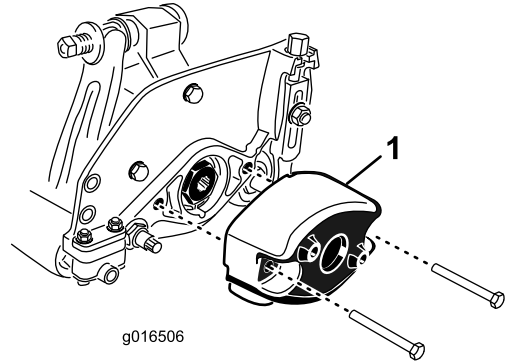

Figure 8
1. Remove the 2 bolts securing the counter weight to the left end of the cutting unit. Remove the counter weight (Figure 8).
weight with the bolts previously removed (Figure 8). Torque the bolts to 16 to 20 N·m (12 to 15 ft-lb).